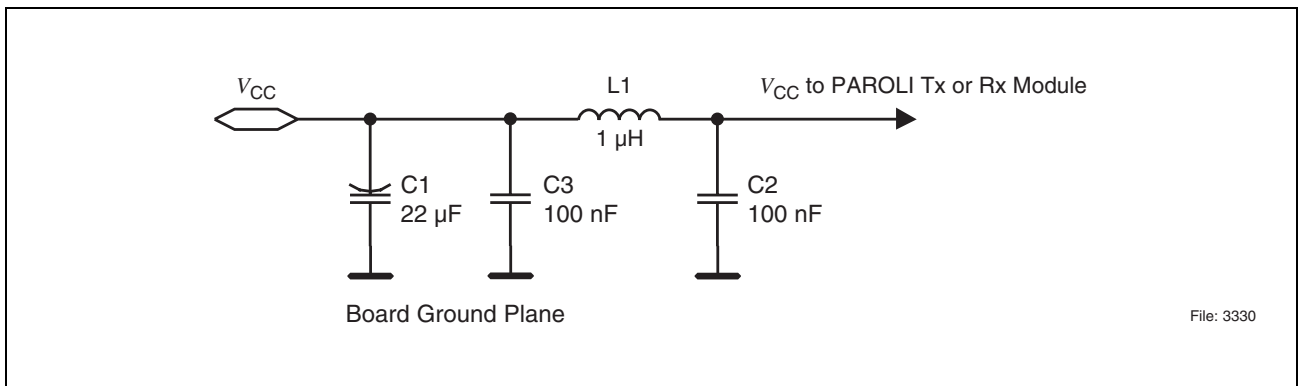

Figure 9 Filtering Scheme
- ²⁾ Noise frequency is 1 kHz to f_{max} , where f_{max} is equal to the maximum data rate in units of MHz. E.g. for a maximum data rate of 2700 Mbit/s, $f_{max} = 2700$ MHz. Power supply noise is defined with the recommended filter in place at the supply side of the filtering circuit (see **Figure 9** on **Page 17**).
A power supply filtering is recommended for the transmitter and the receiver module. A possible filtering scheme is shown in **Figure 9**. The module signal and chassis ground refer to a common ground plane, which can be contacted to the PCB ground by the mounting screws (see **Figure 14 “PCB Layout” on Page 25**).